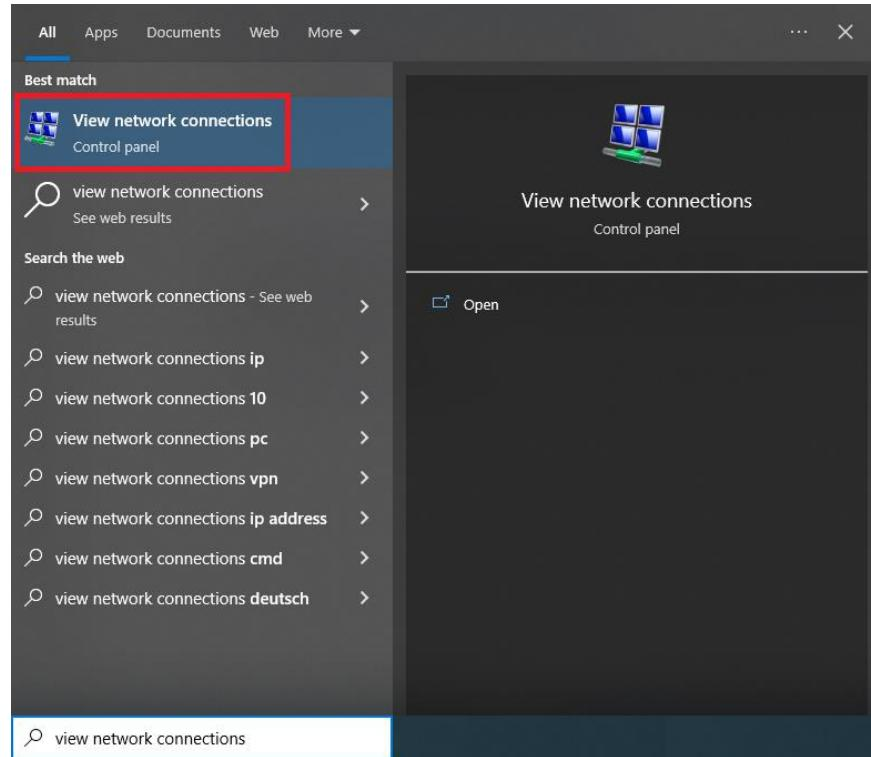

Figure 3: Navigate to “view network connections” in Windows
1. Click Start and type “view network connections.” In the search results click View Network Connections (Figure 3).